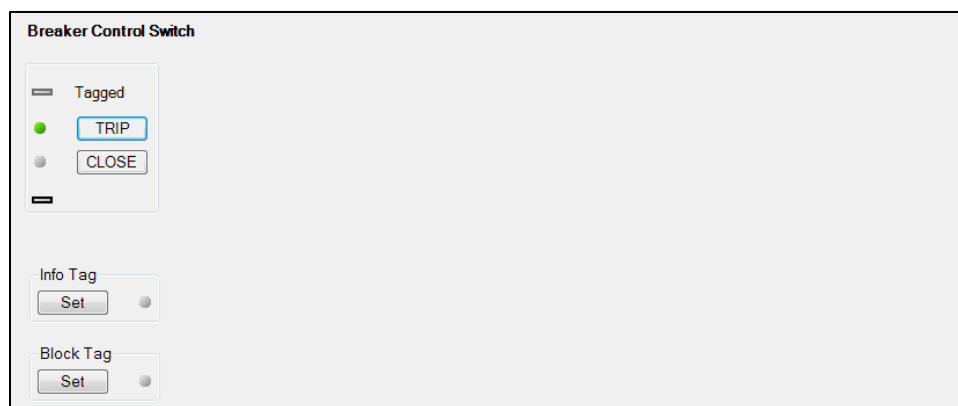

Figure 17-2. Breaker Control Switch Control Screen
1. Use the Metering Explorer to open the Control/Breaker Control Switch tree branch (Figure 17-2).